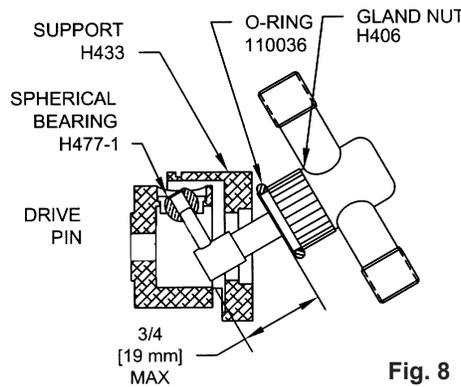
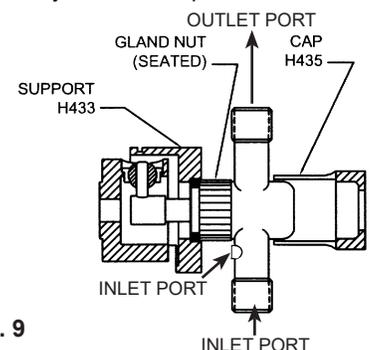

Fig. 8
Fig. 9
**20. REMOVING PISTON/CYLINDER GROUP ASSEMBLY.** (refer, Fig 8.) remove two 110655-20 screws and while holding cylinder ports in place, slip part H435 off of CYLINDER ASSEMBLY H422. Tilt the assembly as shown in figure 8. This will permit removal of PISTON DRIVE PIN 110366 from SPHERICAL BEARING H477 without fully withdrawing piston from liner.
**22. PISTON/CYLINDER GROUP ASSEMBLY REPLACEMENT.** (refer, figs. 8 & 9)
Install "O" RING 110036 over GLAND NUT H406. Note in fig. 8 that PISTON DRIVE PIN must be guided into SPHERICAL BEARING H477-1 while the piston and cylinder remain assembled. This for the purpose of avoiding assembly damage to the seals. When PIN is in bearing, seat GLAND NUT with "O" RING in SUPPORT H433 as shown in fig. 9.